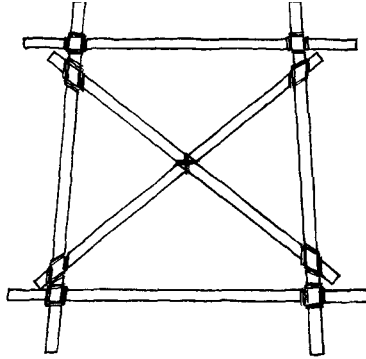

Fig. 77
1. A *Square Lashing* where the spars under load have a tendency to slide over each other, at the corners in figure 77.
2. A *Diagonal Lashing* for bracings where the spars may spring away from each other under load, the centre in figure 77.